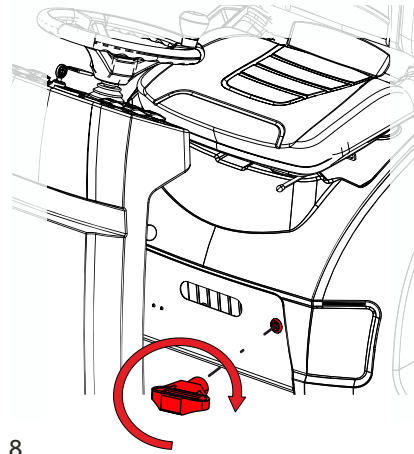

Fig. 8
- The front panel is released on the flap by a front panel wrench (Fig. 8) - turn clockwise -